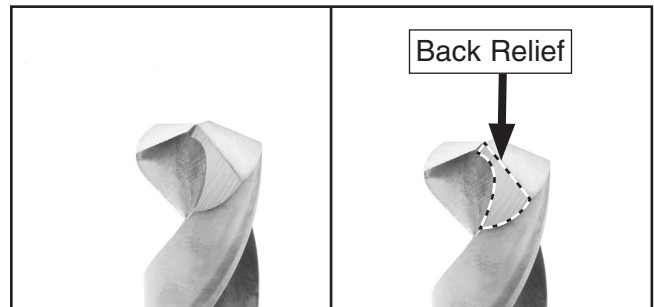

Figure 22. Correct back relief for split point bit.
2. Continue lowering the adjusting block, grinding the drill bit on both sides, examining it, and carefully adjusting the block down until the back relief looks like the example in **Figure 22**.